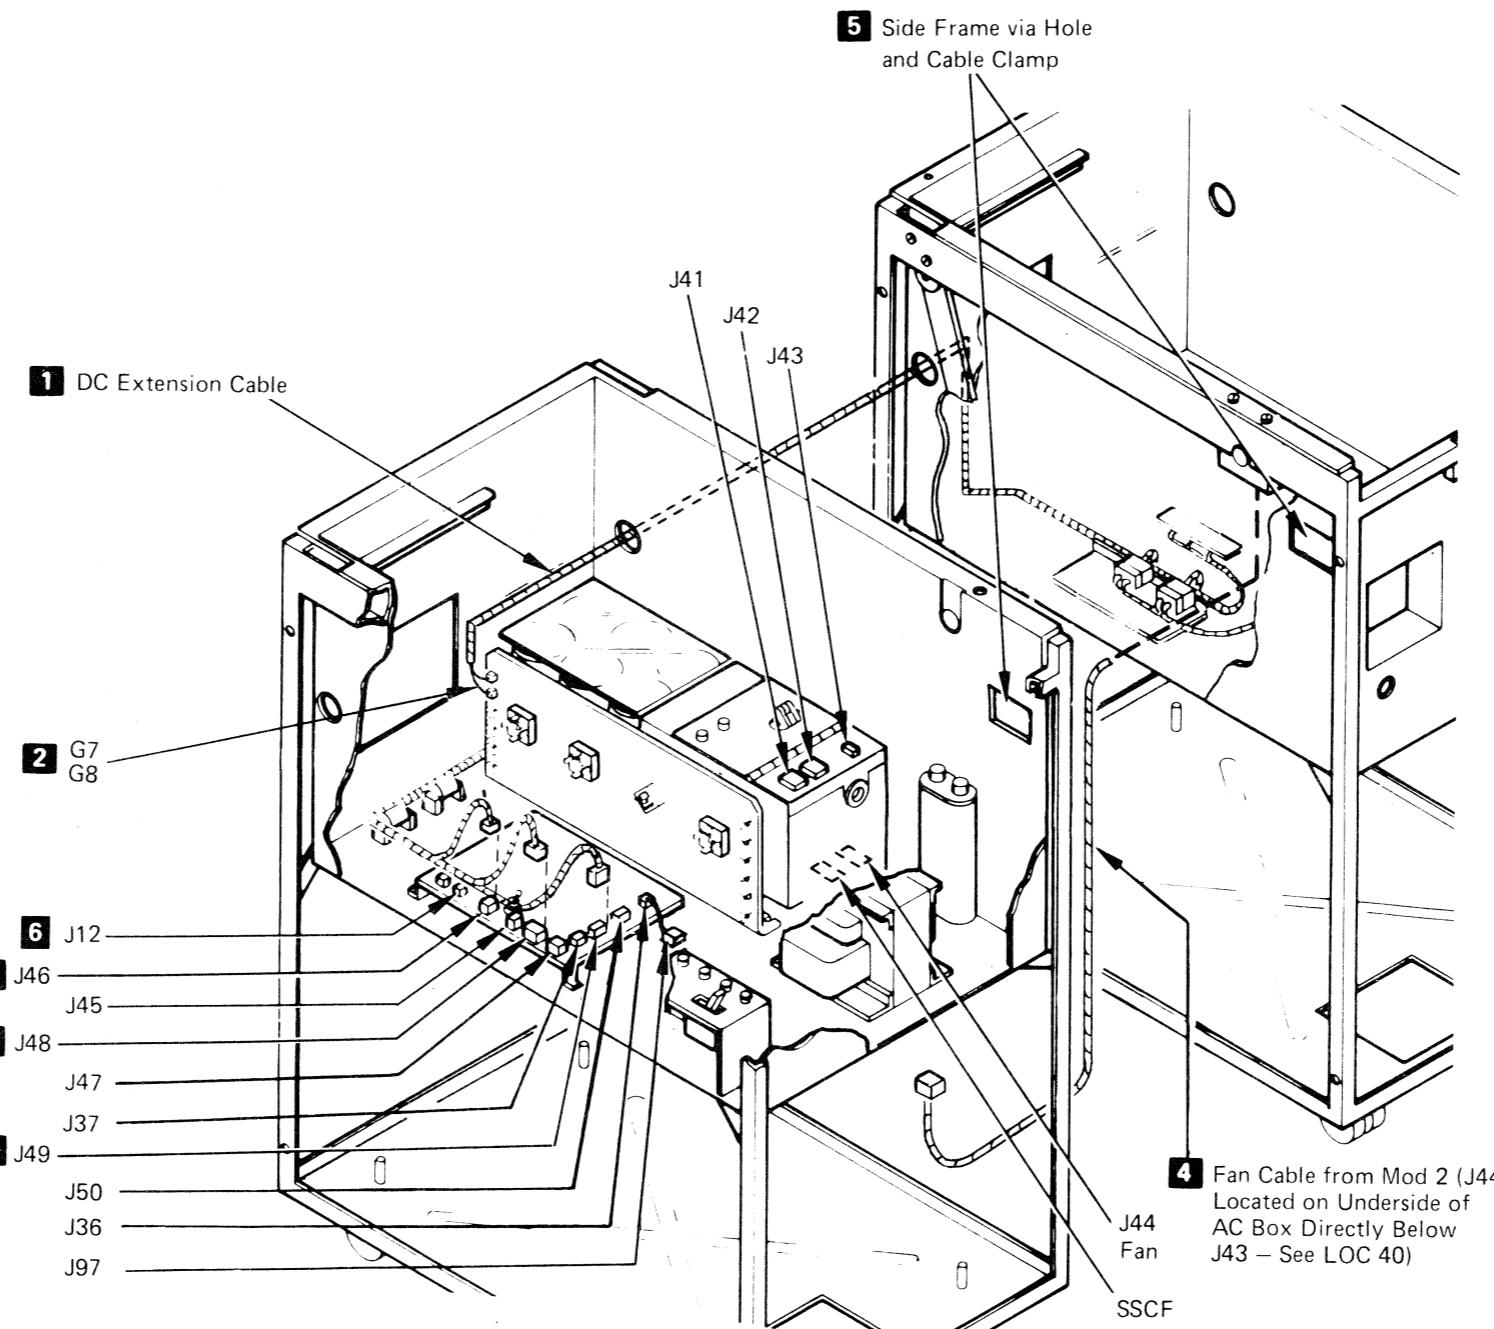

Figure 6. DC Extension and Fan Cables
See Figure 6 on INST 40 or LOC 40 for location of J97.
The DC Extension Cable shown on (Figure 6, 1) provides dc power from a Model 1A, 1B, or 3 to a Model 2. The Model 2 is shipped with this cable preinstalled.
- 20. Route the DC Extension Cable in the Model 1A, 1B, or 3 as shown in (Figure 6, 1). The cables attach to J46, J48, and J49 3 in Models 1A, 1B, or 3. Remove the load resistor cables installed in J46 and J48, and remove the jumper plug in the J49 position. Plug in the DC Extension Cable coming from Model 2. The load resistor cables removed from J46 and J48 remain inside the Model 1A, 1B, or 3, and should be placed so they do not touch any electrical or mechanical parts of the machine.
There are six ground leads that attach to G7, and G8. Install them as shown in (Figure 6, 2).
- 21. The fan cable shown in (Figure 6, 4) supplies ac fan power from a Model 1A, 1B, or 3 to a Model 2. Install the fan cable as shown in Figure 6.
If you are installing a Model 1A, check for the load resistor cables in J12 (Figure 6, 6); a Model 1B will have a cable plugged in J12 that goes to the Magnetic Tape Attachment.